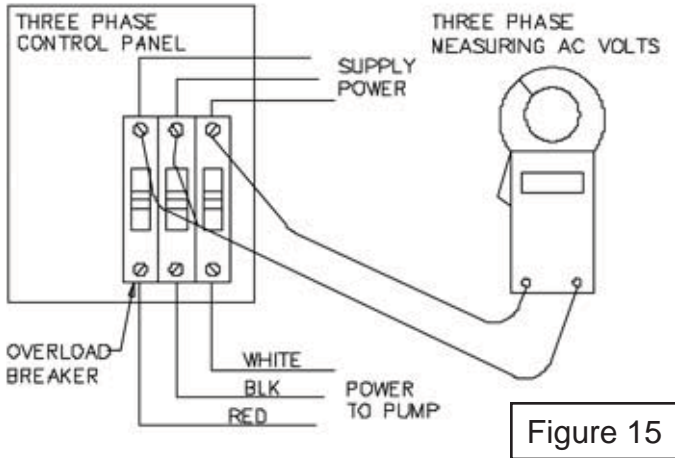

Figure 15
**Three Phase:** Check incoming voltage on the pump side of the control panel circuit breaker. Readings of  $\pm 10\%$  of the published voltage (nameplate) are acceptable. A true check of the voltage supply to the motor must be taken with the pump operating under load, (see Figure 15).